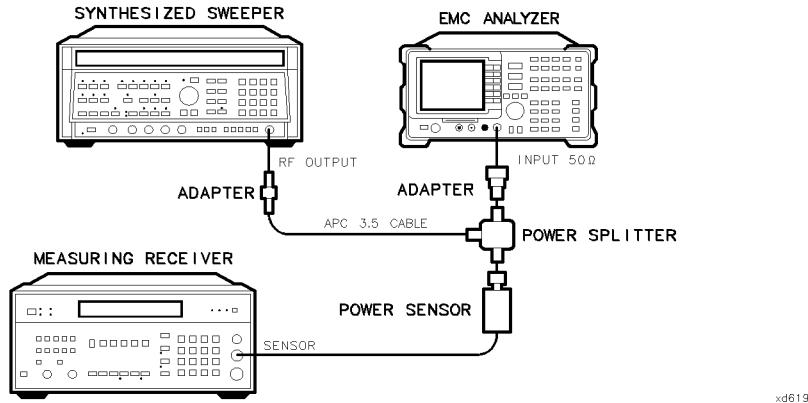

Figure 2-36.
3. Connect the equipment as shown in Figure 2-36. Connect the output of the synthesizer to the power sensor.